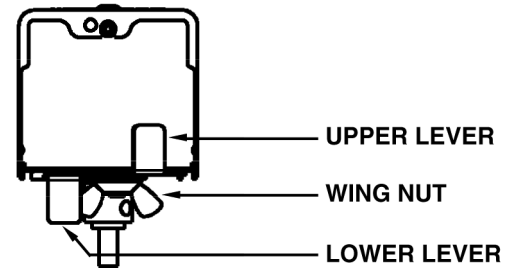

Fig. 4. Air Flow Adjustment
If full opening and closing is not achieved, check the lower adjustment lever is to the extreme left and the upper lever is to the extreme right. See Fig. 4 (Air Flow Adjustments).
1. When viewed on end, the lower lever is normally positioned to the extreme left (See Fig. 4). This position allows the damper to fully open 90° when de-energized.
3. The upper lever is normally positioned to the right to provide complete shut off when the actuator is energized (See Fig. 4).